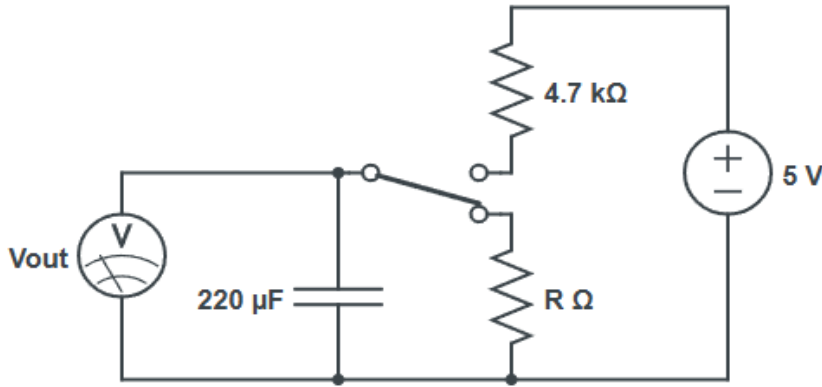

Figure 16
The reading of the voltmeter in Figure 16, V_{out} , is initially 0V. Then, the switch is moved upwards, and the capacitor begins to charge.
e) Use Figure 16 to show the direction of conventional current flow when the switch changes to the discharging position.